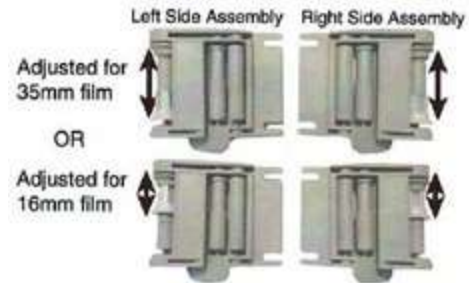

Figure 12
- g. Film guide roller assemblies can be adjusted for either 16mm or 35mm film. Move the white roller sleeve to the appropriate location for the film you will be using. *Figure 12*